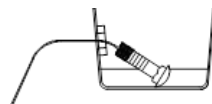

Figure 2
4. Pull the pull wire with fasteners into location through the hole. Leave pull wires attached. Repeat the same process on both frame rails. Push the fasteners back into the frame rails with the pull wire attached, to allow the hitch to go into position. See figure 2